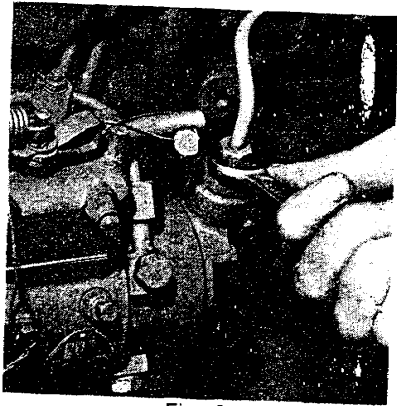

Fig. 6.
4. Slacken the pipe union nut (see fig. 6) at the pump inlet, operate the priming lever and retighten when fuel, free from air bubbles, issues from around the threads.